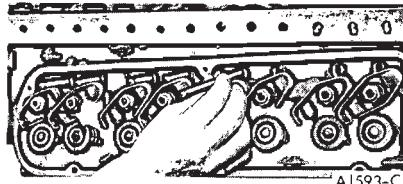

FIG. 24—Removing Valve Push Rod
5. Loosen the rocker arm stud nuts so that the rocker arms can be rotated to the side. Remove the push rods in sequence (Fig. 24) so that they may be installed in their original positions.